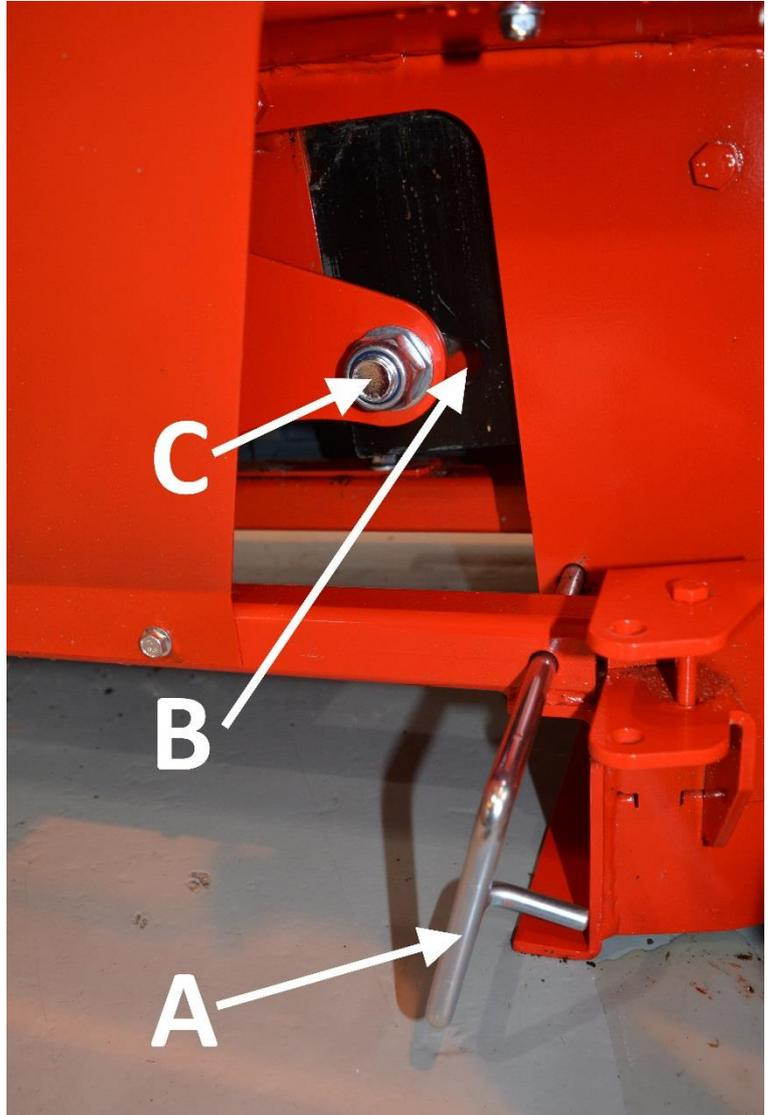

Figure 22. Replacing the splitting blade
1. Pull out locking bar A, as shown in Figure 22. Lower the splitting blade to its low position, which releases shaft C from blade slot B.